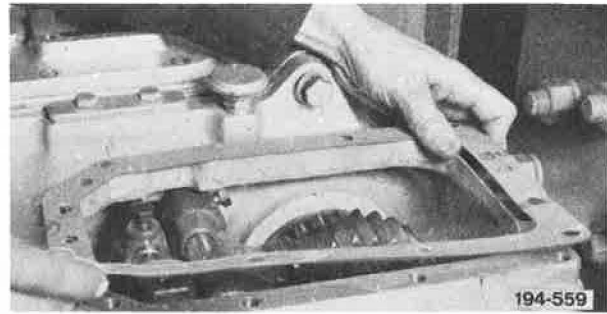

Figure 5-558. Installing Gasket
10. Install air shift cover gasket. See Figure 5-558.